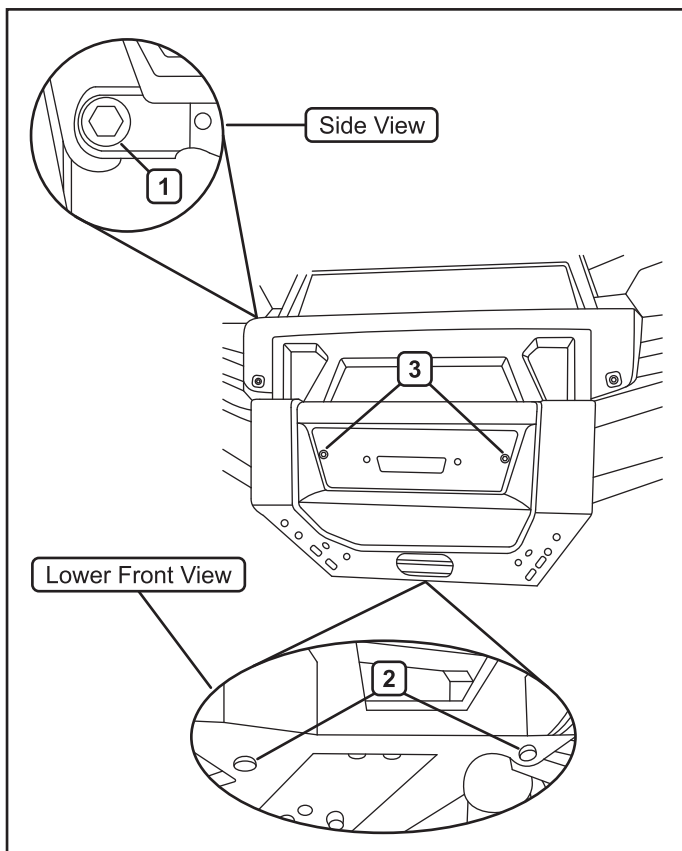
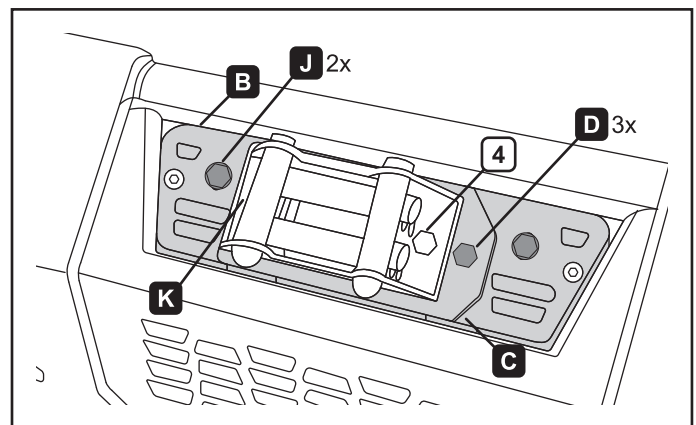

Figure 3.
Figure 4.
2. Remove your front bumper and plastic grill by removing six bolts; marked (1, 2, 3) in figure 3. Plastic grill will not be reused.
3. Loosely install fairlead bracket (B) to bumper with bolts (3) from step 2.
4. Attach your standard width fairlead to fairlead bracket (B) with fairlead converter bracket (C), bolts (D, K), washers (J, L) and nuts (E, I). Use the hardware included with your winch in middle hole marked (4). See figure 4.
7. Install bolts (D) and washers (J) through fairlead bracket (B) into winch mount (A). See figure 4.